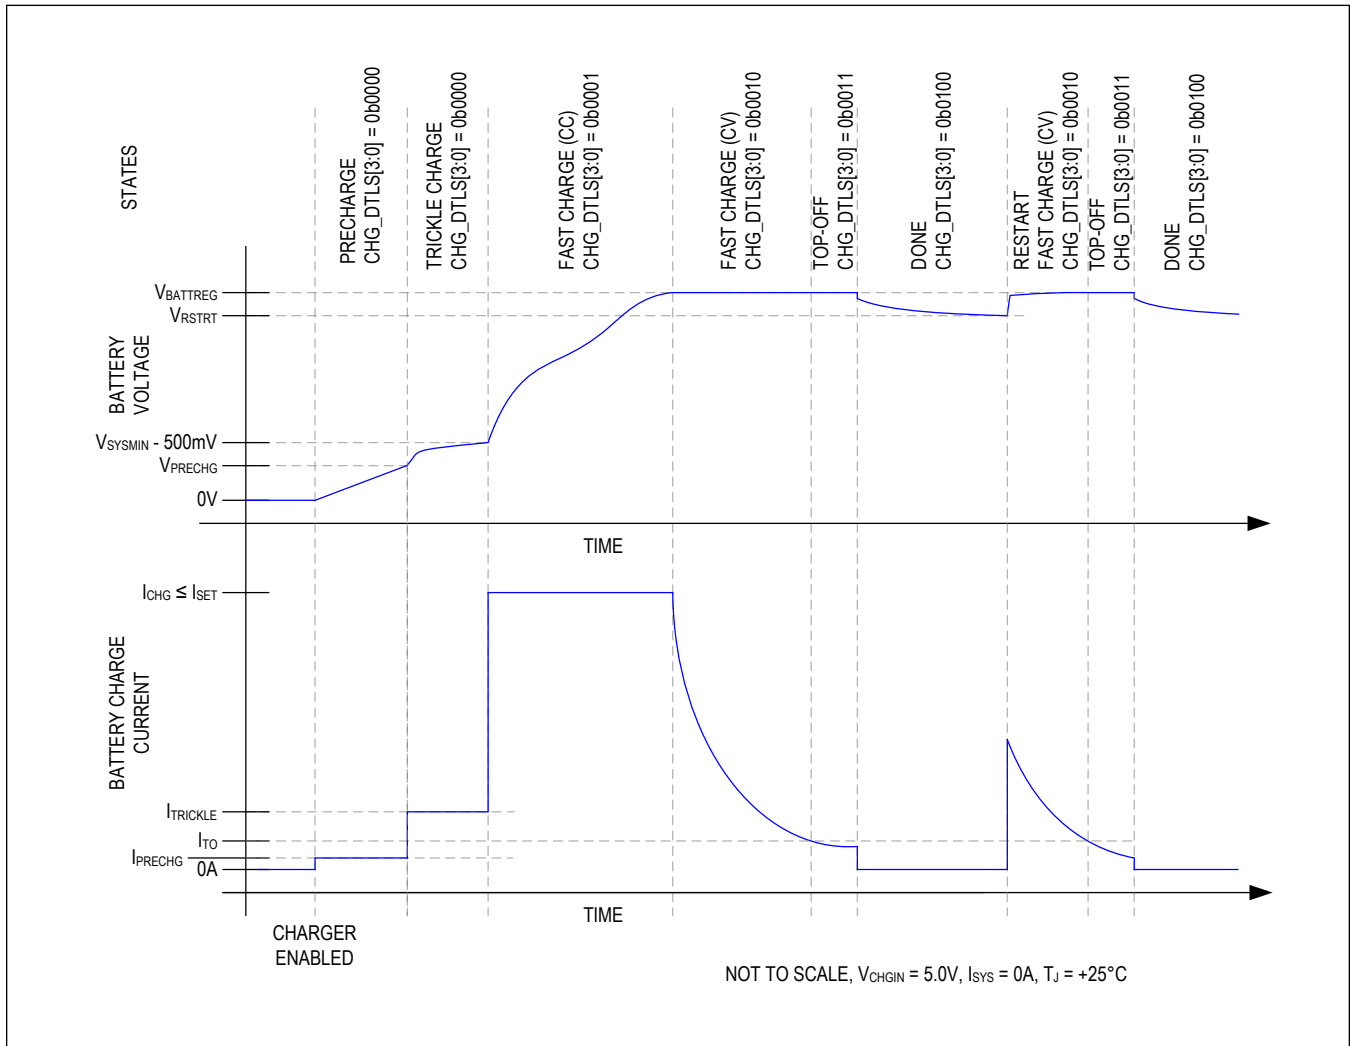
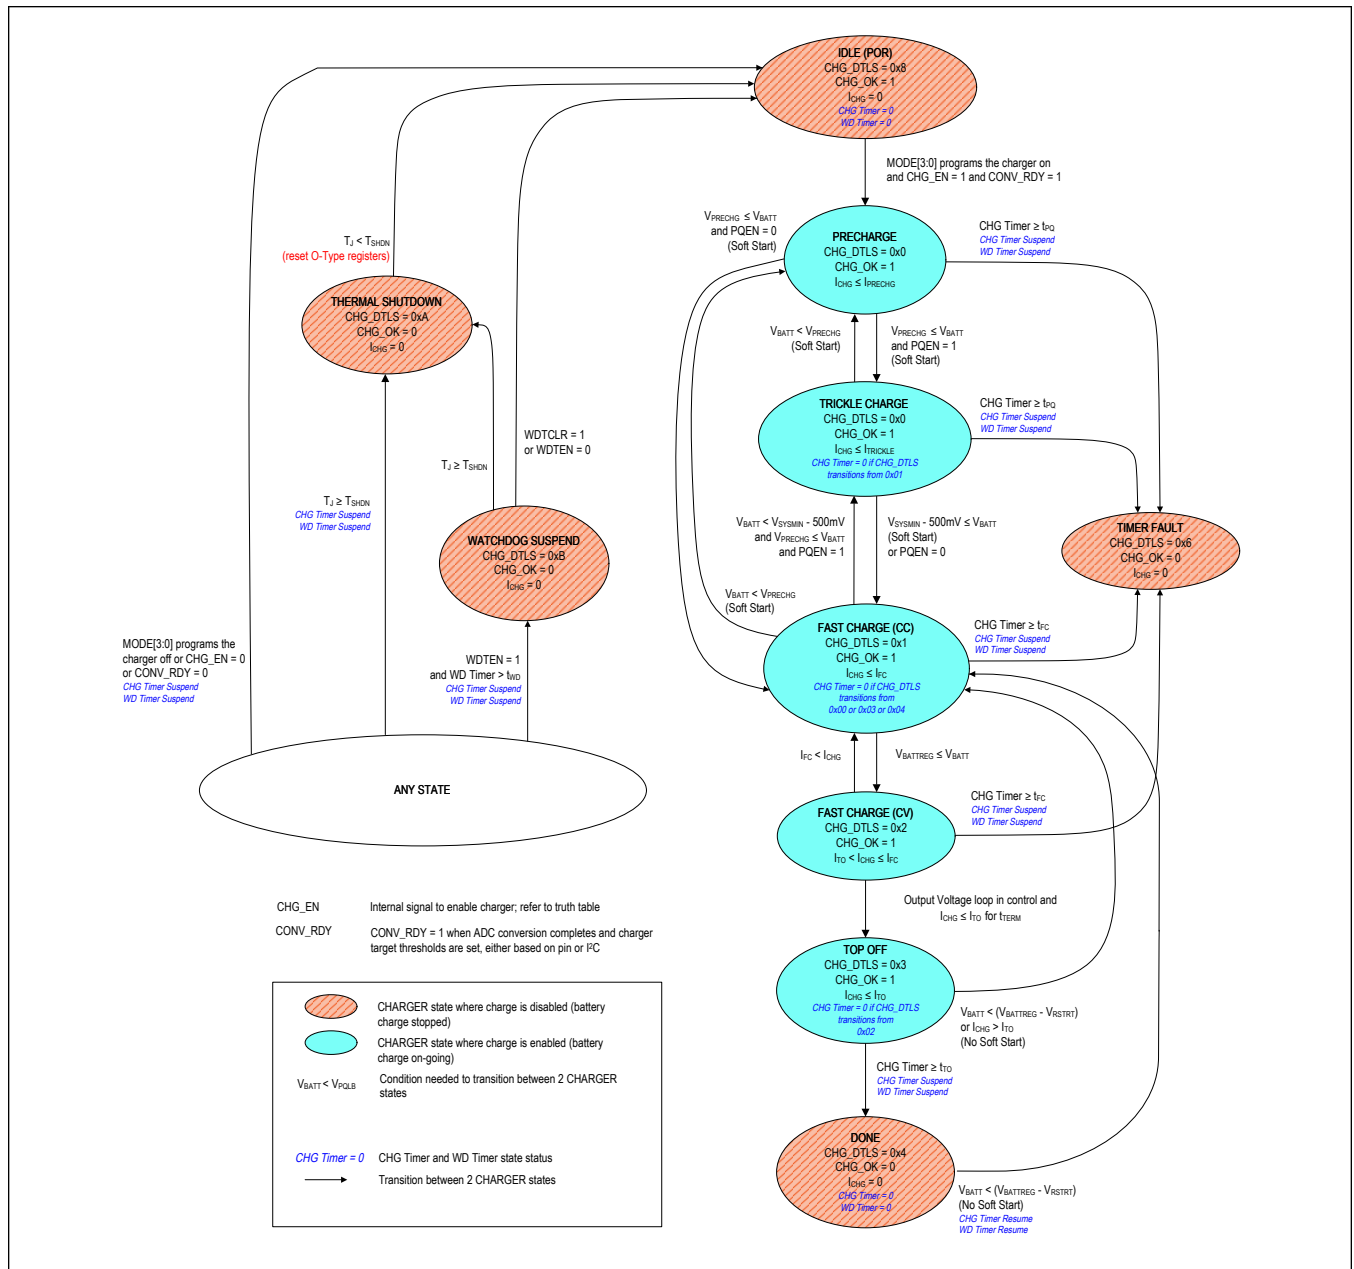

Figure 1. Li Battery Charge Profile
Figure 2. Charger State Diagram
The IC utilizes several charging states to safely and quickly charge batteries as shown in Figure 1 and Figure 2. Figure 1 shows an exaggerated view of a Li+/Li-Poly battery progressing through the following charge states when there is no system load and the die and battery are close to room temperature: Prequalification \rightarrow Fast-charge \rightarrow Top-off \rightarrow Done.
From any state shown in Figure 2, except thermal shutdown, the “no input power or charger disabled” state is entered whenever the charger is programmed to be off or the charger input CHGIN is invalid. After being in this state for t_{SCIDG} , CHG_DTLS is set to 0x08 and CHG_OK is set to 1. A CHG_I interrupt is generated if CHG_OK was 0 previously.
As shown in Figure 2, the charger enters the precharge state when the battery voltage is less than V_{PRECHG} . After being in this state for t_{SCIDG} , a CHG_I interrupt is generated if CHG_OK was 0 previously, CHG_OK is set to 1, and CHG_DTLS is set to 0x00. In the precharge state, charge current into the battery is I_{PRECHG} .
As shown in Figure 2, the charger state machine is in trickle charge state when $V_{PRECHG} < V_{BATT} < V_{SYSMIN} - 500mV$. After being in this state for t_{SCIDG} , a CHG_I interrupt is generated if CHG_OK was 0 previously, CHG_OK is set to 1, and CHG_DTLS = 0x00.
As shown in Figure 2, the charger enters the fast-charge constant current (CC) state when $V_{\text{SYSTEMIN}} - 500\text{mV}$ (typ) < $V_{\text{BATT}} < V_{\text{BATTREG}}$. After being in the fast-charge CC state for t_{SCIDG} , a CHG_I interrupt is generated if CHG_OK was 0 previously, CHG_OK is set to 1, and CHG_DTLS = 0x01.
As shown in Figure 2, the charger enters the fast-charge constant voltage (CV) state when the battery voltage rises to V_{BATTREG} from the fast-charge CC state. After being in the fast-charge CV state for t_{SCIDG} , a CHG_I interrupt is generated if CHG_OK was 0 previously, CHG_OK is set to 1, and CHG_DTLS = 0x02.
In the fast-charge CV state, the battery charger maintains V_{BATTREG} across the battery and the charge current is less than or equal to I_{FC} . As shown in Figure 1, charger current decreases exponentially in this state as the battery becomes fully charged.
As shown in Figure 2, the top-off state can only be entered from the fast-charge CV state when the charger current decreases below I_{TO} for t_{TERM} . After being in the top-off state for t_{SCIDG} , a CHG_I interrupt is generated if CHG_OK was 0 previously, CHG_OK is set to 1, and CHG_DTLS = 0x03. In the top-off state the battery charger maintains $V_{BATTREG}$ across the battery and typically the charge current is less than or equal to I_{TO} .
As shown in Figure 2, the battery charger enters its done state after the charger has been in the top-off state for t_{TO} . After being in this state for t_{SCIDG} , a CHG_I interrupt is generated only if CHG_OK was 0 previously, CHG_OK is set to 0, and CHG_DTLS = 0x04.
The battery charger provides both a charge timer and a watchdog timer to ensure safe charging. As shown in Figure 2, the charge timer prevents the battery from charging indefinitely. The time that the charger is allowed to remain in its prequalification states is t_{PQ} . The time that the charger is allowed to remain in the fast-charge CC and CV states is t_{FC} which is programmable with FCHGTIME. Finally, the time that the charger is in the top-off state is t_{TO} which is programmable with TO_TIME. Upon entering the timer fault state, a CHG_I interrupt is generated without a delay, CHG_OK is cleared, and CHG_DTLS = 0x06.
The charger is off in the timer fault state. The charger can exit the timer fault state when the charger is programmed to be off then on again through the MODE bits or when DISQBAT pin is toggled from L-H-L. Alternatively, the charger input can be removed and re-inserted to exit the timer fault state (see the “ANY STATE” bubble in Figure 2).
The battery charger provides both a charge timer and a watchdog timer to ensure safe charging. As shown in Figure 2, the watchdog timer protects the battery from charging indefinitely in the event that the host hangs or otherwise cannot communicate correctly. The watchdog timer is disabled by default with $WDTEN = 0$. Enable the feature by setting $WDTEN = 1$. With watchdog timer enabled, the host controller must reset the watchdog timer within the timer period (t_{WD}) in order for the charger to operate properly. Reset the watchdog timer by programming $WDTCLR = 0x01$.
As shown in Figure 2, the state machine enters the thermal shutdown state when the junction temperature (T_J) exceeds the device's thermal-shutdown threshold (T_{SHDN}). When T_J is close to T_{SHDN} , the charger would have already folded back the input current to 0A (see the Thermal Foldback section for more details), so the charger and the DC-DC are effectively off. Upon entering this state, CHG_I interrupt is generated if CHG_OK was 1 previously, CHG_OK is cleared, and $CHG_DTLS = 0x0A$.